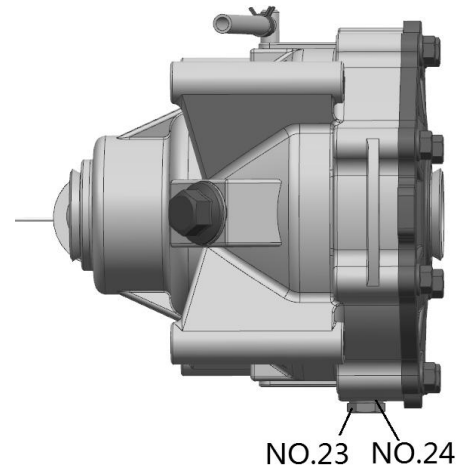

Fig 1
**Important:** Clean the plug carefully. Replace the sealing washer (NO.24) before it's assembled. →Fig 1
- 3.Remove the differential solenoid (NO.14) from the gearcase cover if servicing the solenoid, shift lever, shift lever spring, or shift yoke. If none of these items are being serviced. The solenoid can remain installed in the gearcase cover. →Fig 1